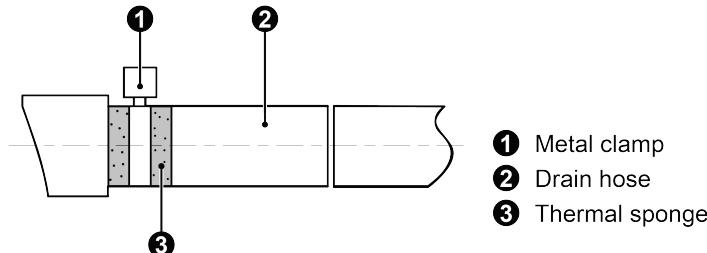

Fig 4.9
- (1) Insert the drain hose into the drain hole and tighten it with tapes, as shown in Fig 4.9
- (2) Tighten the pipe clamp, with the distance between screw nut and hose smaller than 4mm.
①metal clamp(accessory) ②drain hose(accessory) ③Grey tape(accessory)